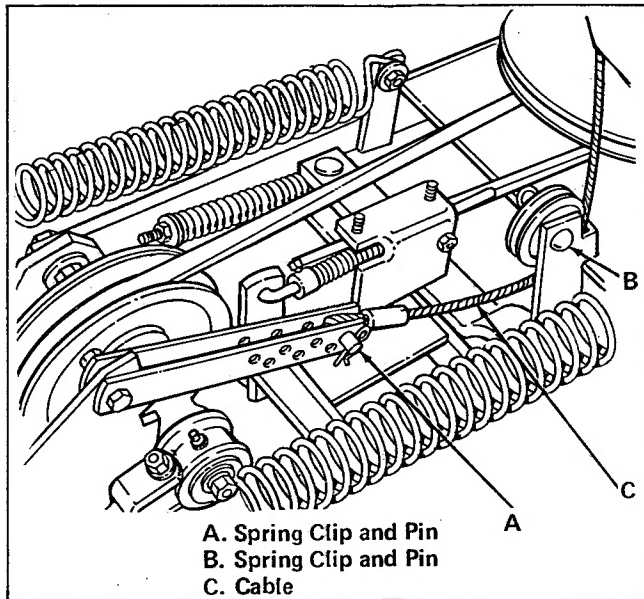

Figure 9. Right Lift Cable Removal
6. Remove spring clip and pin (item A, figure 9) and spring clip and pin (item B) to disconnect the right lift cable (item C) from mower. Put pins and spring clips back into proper holes. Replace cover and wing nut.